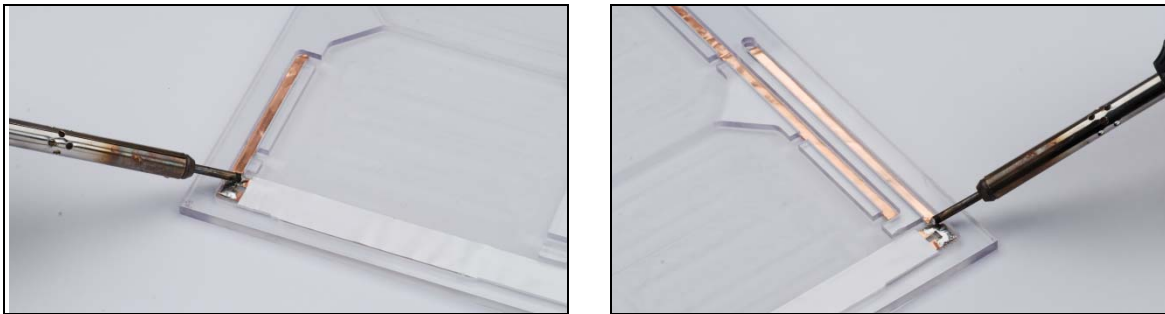

Figure 10
- ✓ Solder both overlapping junctions of the double bus-bar, as shown in Figure 10.